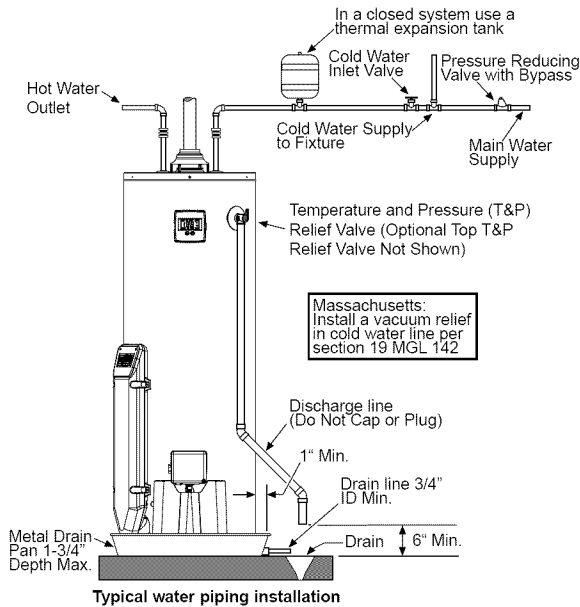

FIGURE 23.
Piping, fittings, and valves should be installed according to the installation drawing (Figure 23). If the indoor installation area is subject to freezing temperatures, the water piping must be protected by insulation.
1. Install the water piping and fittings as shown in Figure 23. Connect the cold water supply (3/4" NPT) to the cold water inlet fitting. Connect the hot water piping (3/4" NPT) to the hot water outlet fitting.